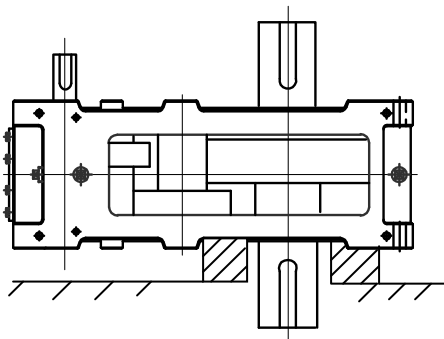

Fig. A-5 Housing Orientation
- Position the housing vertically. (See Fig. A-5)